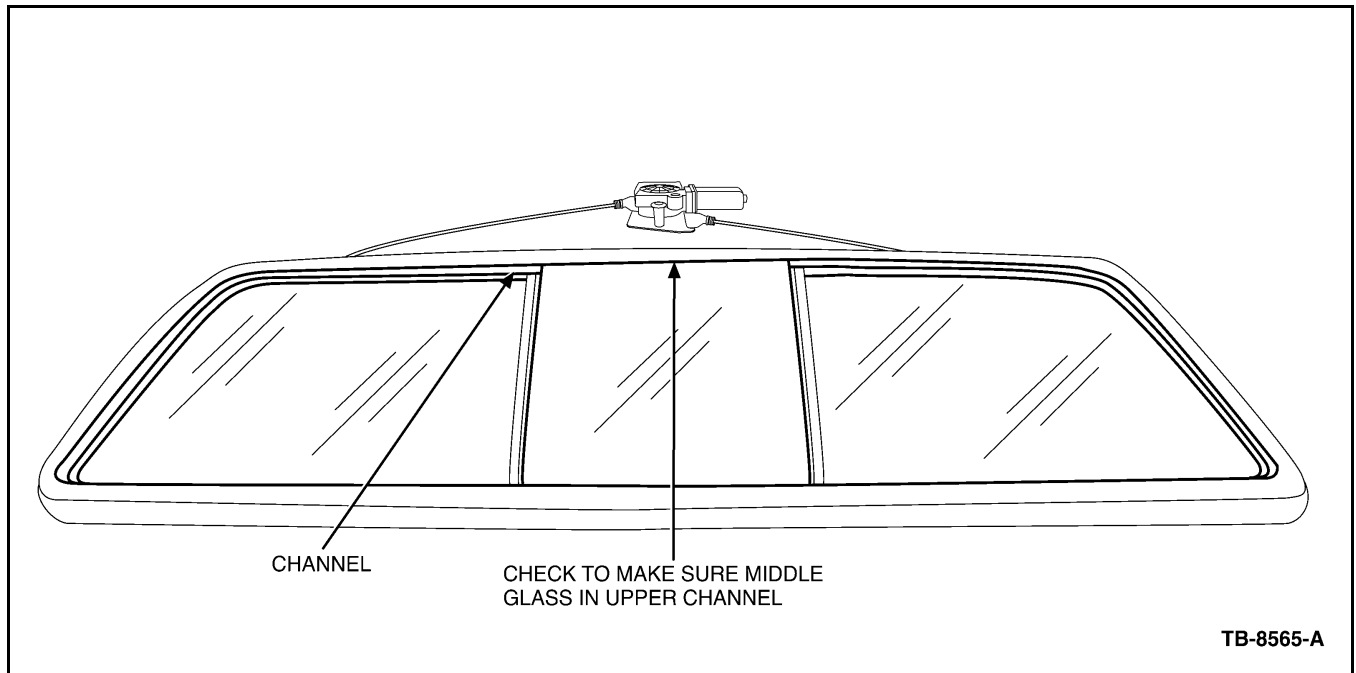

Figure 1 - Article 06-15-5
1. Prior to window removal, verify that center glass is centered in the upper plastic channel (Figure 1). If center glass is not inside upper plastic channel, pull channel down and out of upper aluminum channel and slide back in making sure the entire center glass is inside the plastic channel.